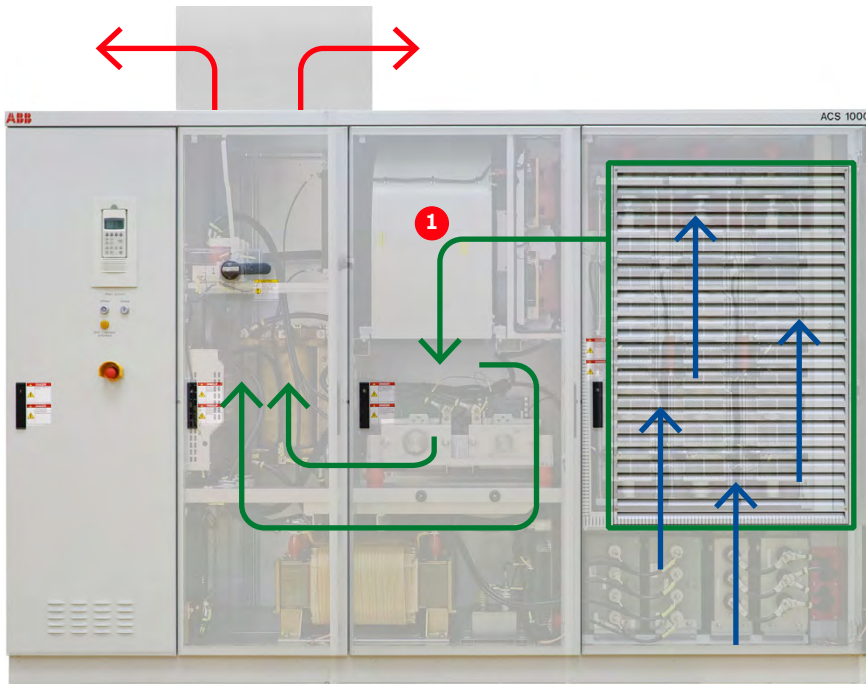

Figure 3-15: Air flow– non-redundant fan (1) configuration
- **Non-redundant:** The fan (1 in Fig. 3-15) is installed inside the cabinet.